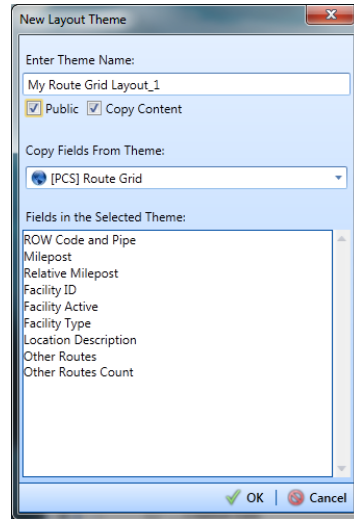

Figure 7-42. New Layout Theme
- 4 Click  **Add** to open the *New Layout Theme* dialog box (Figure 7-42, page 327).